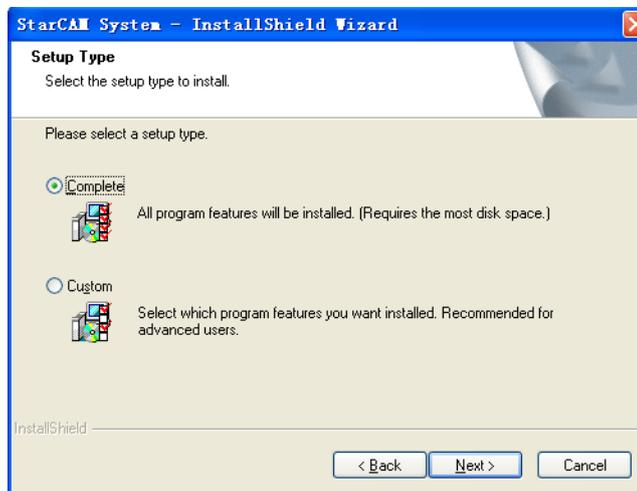
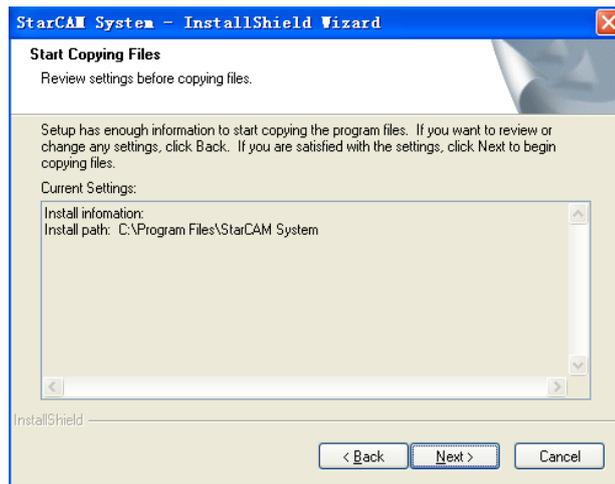

Figure 4
Figure 7
4. Input the user name and the company name, and click the button “Next” to enter Figure 4.
7. Select the file to be installed, and click the button “Next” to enter Figure 7. If selecting “All” in Figure 4, then directly enter Figure 7.